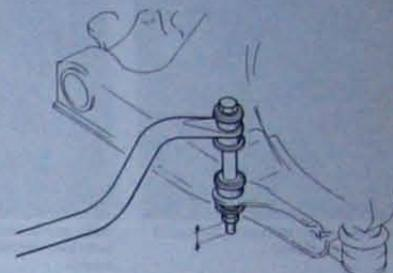

Fig. 10.9 Position the connecting link locknuts so that the specified amount of connecting link bolt thread is exposed (Sec 6)
- 9 Position the connecting link locknuts so that when tightened to the specified torque setting there is 6.2 mm of the connecting link bolt thread exposed on pre-September 1985 models, and 10.8 mm of the connecting link bolt thread exposed on later models (Fig. 10.9).